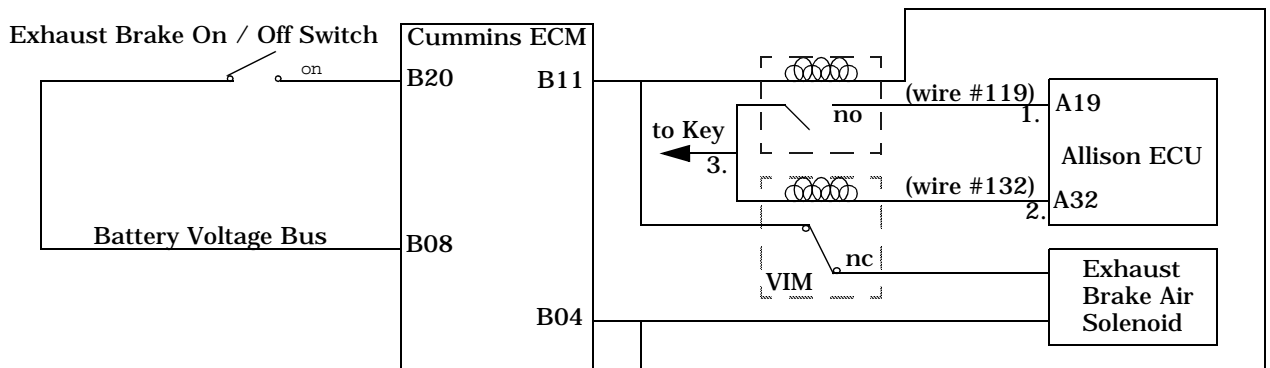

Figure 3-4: Exhaust Brake Wiring w/Allison MD Transmission
11. The diagram shown in Figure 3-4 on page 27 provides the system schematic.